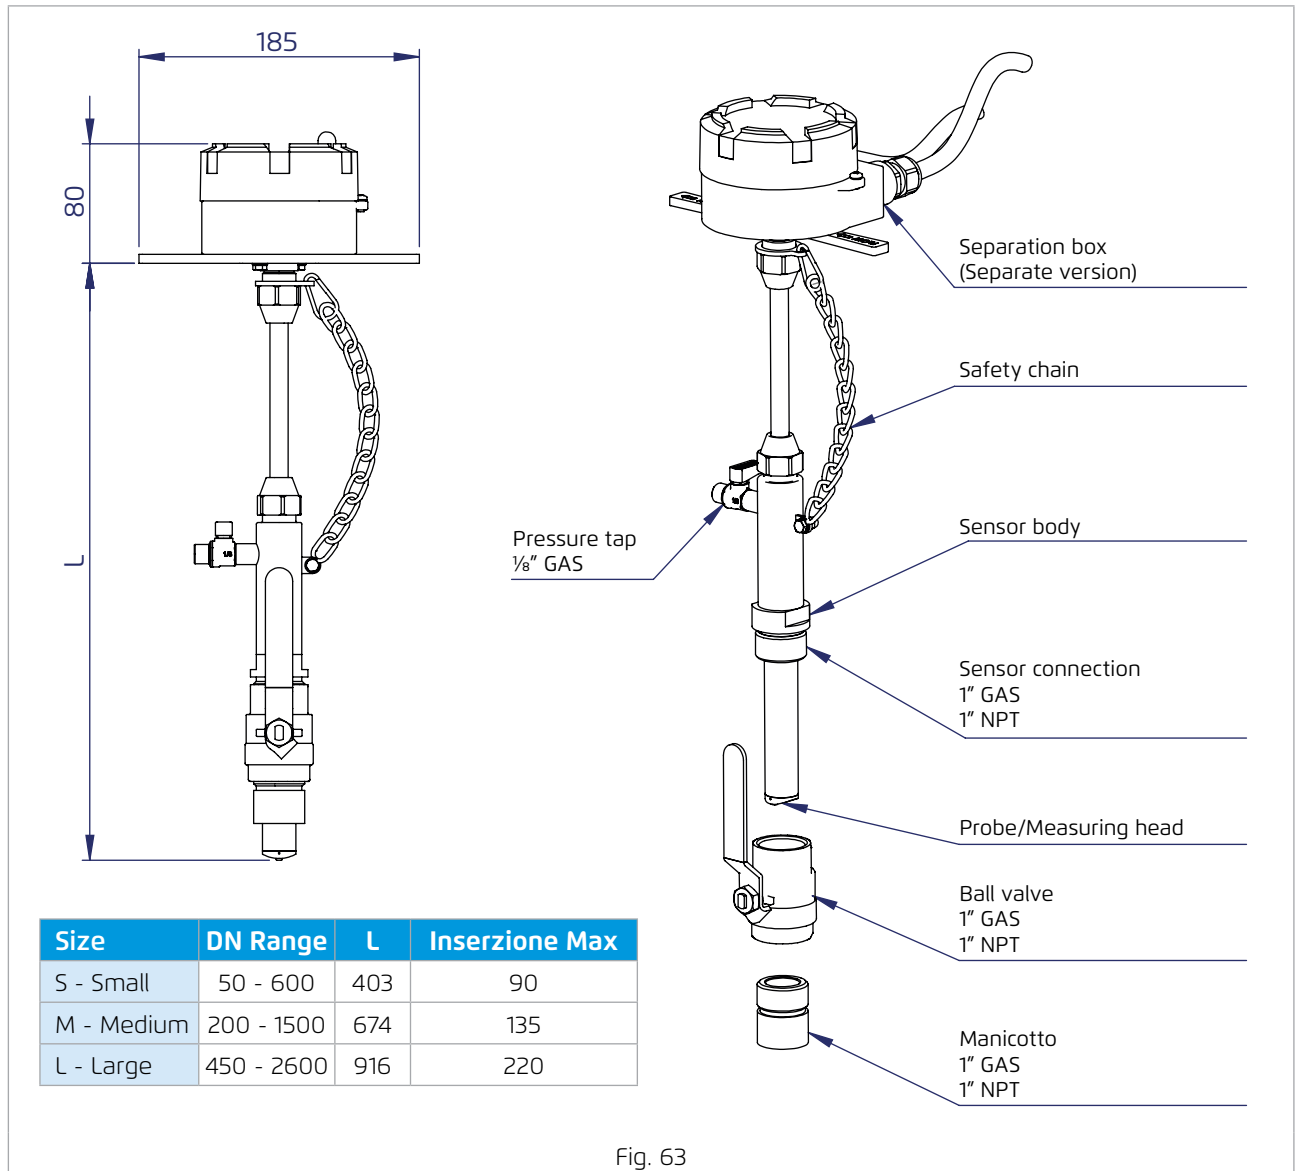

Fig. 63
- L = Flowmeter length according to the table of Fig. 63